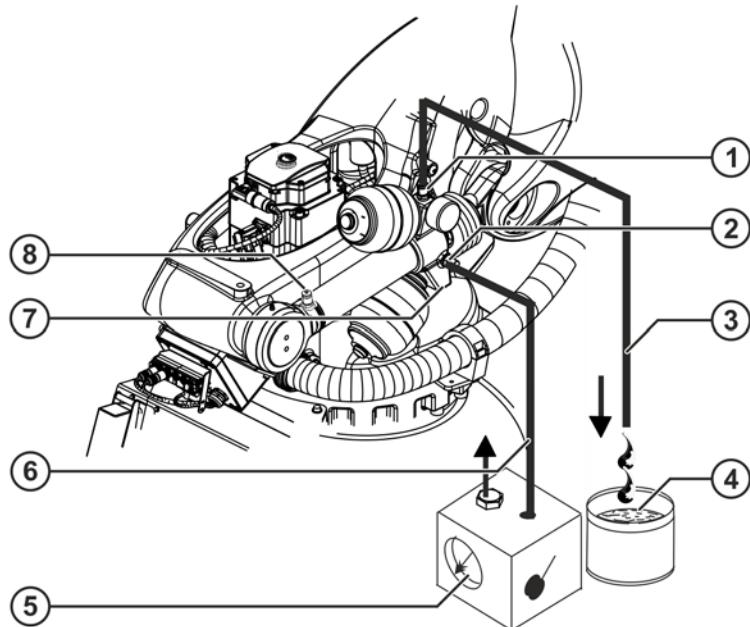

Fig. 10-6: Topping up the hydraulic oil
18. Unscrew the screw cap on the filler neck (**>>>** Fig. 10-6) and connect the hydraulic hose.